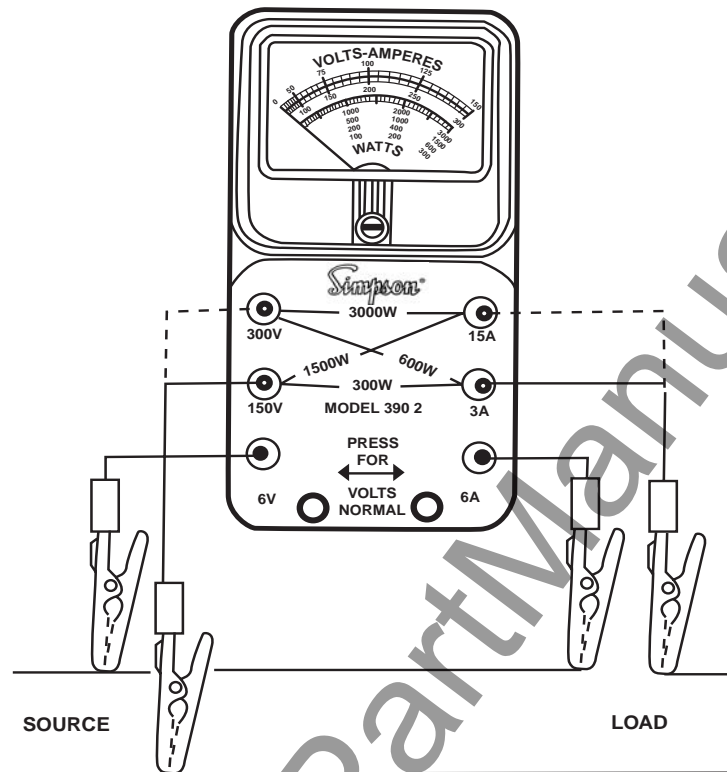

Figure 4.2 Model 390-2 and Special Test Lead Set Application
If unable to use the Break-In Cable Assembly, use the special test lead set. For line voltages up to 150 volts, connect the  $\pm V$  and the 150V jacks across the line and the  $\pm A$  and the 3A or 15A jacks in series with the load for 300 and 1500 watt ranges respectively. The leads are color coded to match the colored dots of the respective jacks (see Figure 4-2). For line voltages between 150 and 300 volts, connect the  $\pm V$  and the 300V jacks across the line, and the  $\pm A$  and the 3A or 15A jacks in series with the load for the 600 and 3000 watt ranges respectively.
11. Connect the Model 390-2 as an ammeter in series with the line and the load using the Special Test Lead Set, or as a wattmeter (see Figure 4-2).